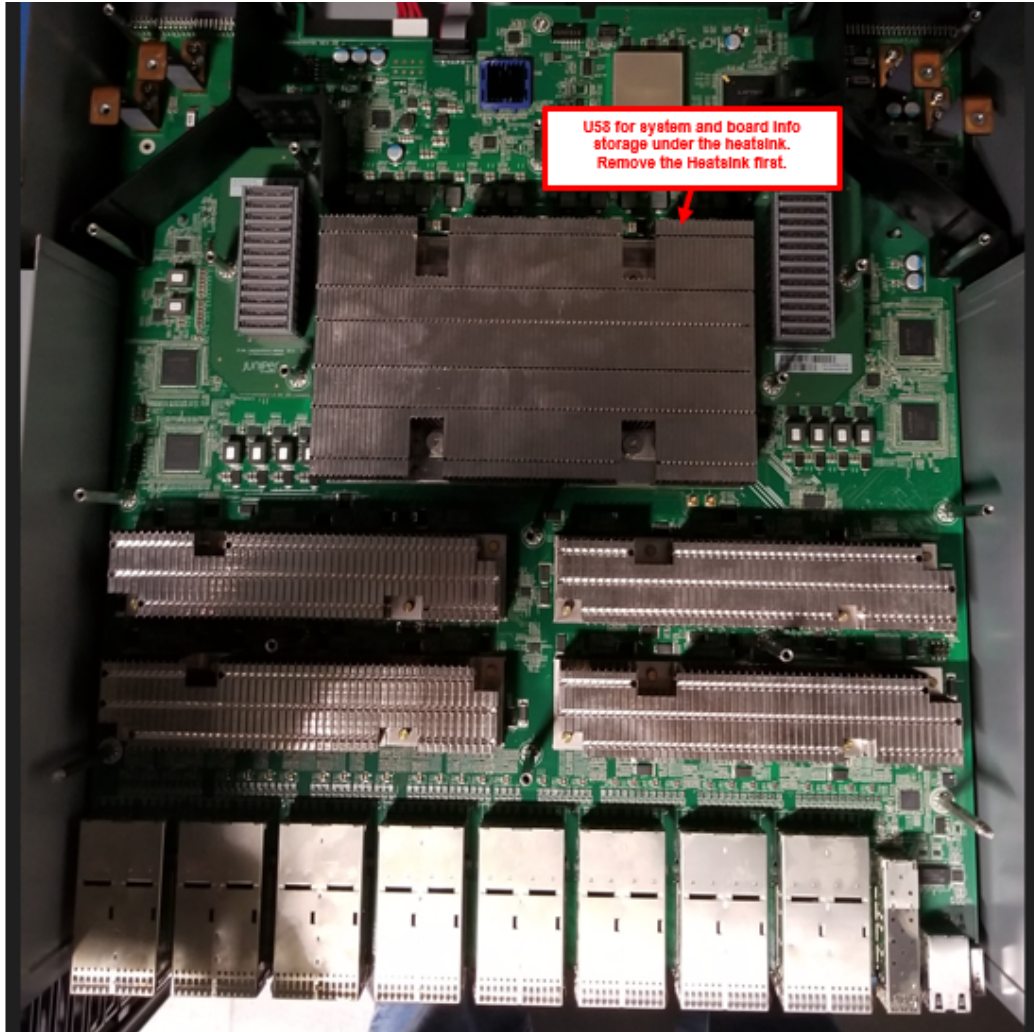

Figure 3-10. Locate NV storage devices on Main board
10. Locate NV storage devices on Main board (Figure 3-10).